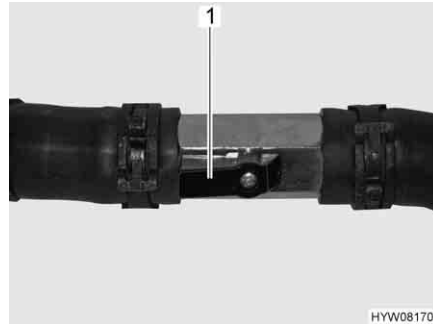

Fig. 198 Stopcock is open
- Set the lever (Fig. 198,1) of the stopcock parallel to the pipe (Fig. 198). The wider the stopcock is opened, the higher is the heat output.